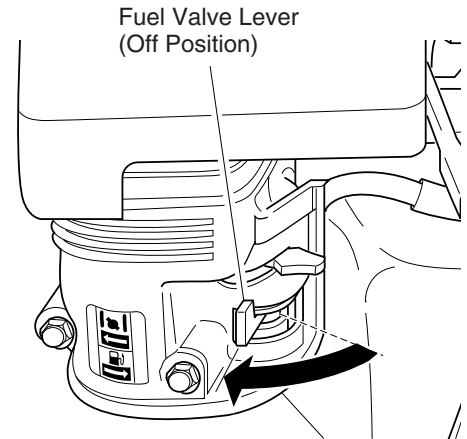

Figure 30 - Fuel Valve Lever Off (Model MGH6500IE Shown)
4. Turn fuel valve lever off except on Model MGH3000PR. Do this by moving valve lever fully to the left (see Figure 30).